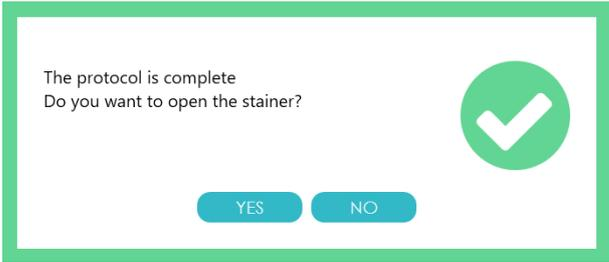

Figure 41) Stainer opening pop-up at the end of protocol execution.
8. At the end of the protocol execution, release the slide by clicking "Yes" on the pop-up (Figure 41), or by clicking "No" and then clicking "Open" below the Staining chip icon in the General box on the Home tab (see Section 8.4.3). Do not manually open the stainer or remove the slide until this step has been performed.